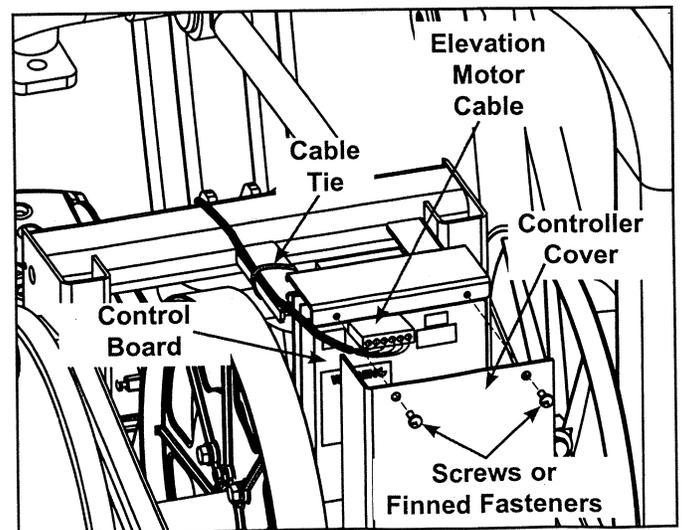
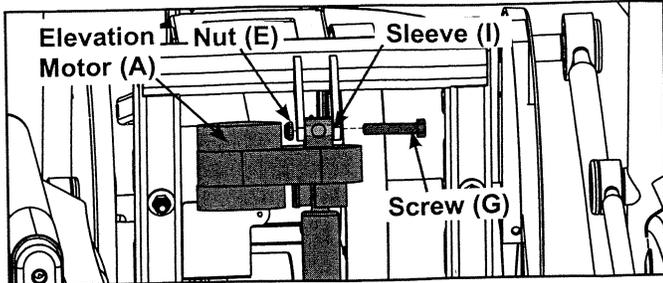

Figure 9
Figure 10
- A. Using a flat head screwdriver, remove the two fasteners/screws and the controller cover. See Figure 9. **NOTE:** 600A/610A uses finned fasteners. The 620A/630A uses screws.
- B. Using a side cutter, cut cable tie. See Figure 9.
- A. Using two 9/16" open-end wrenches, remove the screw, sleeve and nut securing the elevation motor to the drive frame assembly. See Figure 10.
- B. Using two 9/16" open-end wrenches, attach sleeve (I), screw (G) and nut (E) securing the new elevation motor (A) to the drive frame assembly. See Figure 10. **NOTE:** Verify sleeve is in place between the screw and nut.
- C. Plug the new elevation motor (A) cable into the control board.
- D. Attach a cable tie (C) securing the new elevation motor (A) cable to the frame. See Figure 9.
- E. Using a Phillips screwdriver, attach controller cover to frame with the two finned fasteners or screws removed in step 12A. See Figure 9.